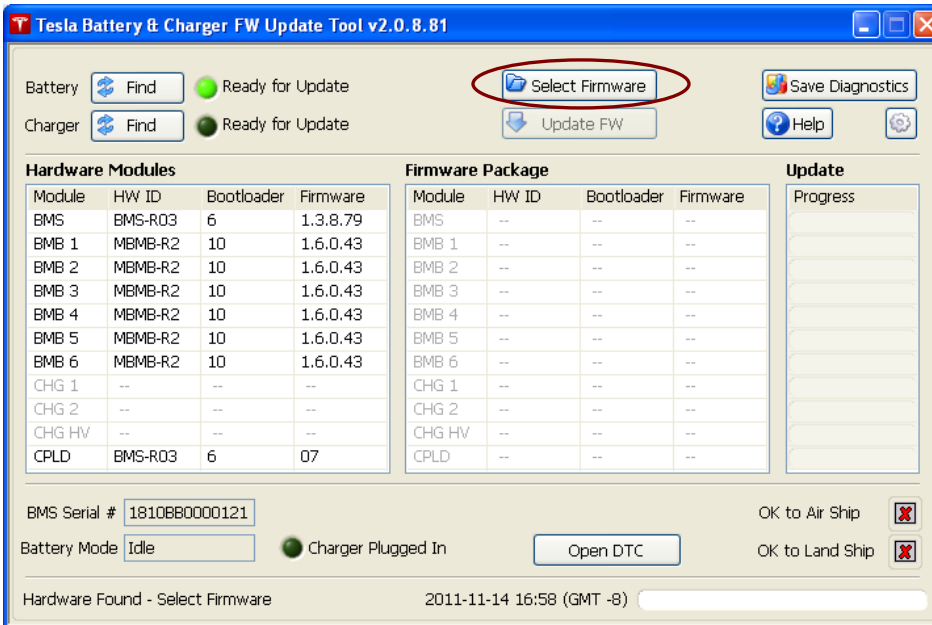

Figure 4
1.5. Select: "Select Firmware" (circled, Figure 4).